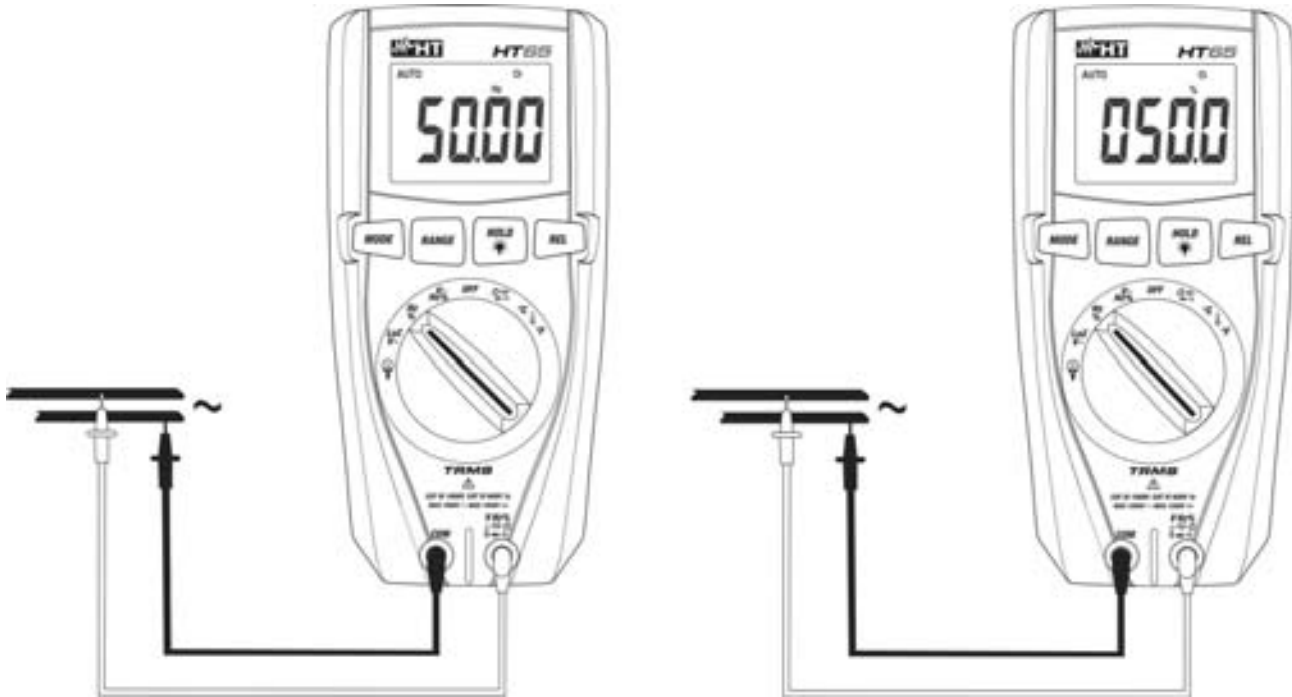

Fig. 5: Use of the instrument for frequency measurement and duty cycle test
4. Position the red lead and the black lead respectively in the spots of the circuit to be measured (see Fig. 5). The value of frequency (Hz) or of duty cycle (%) is shown on the display